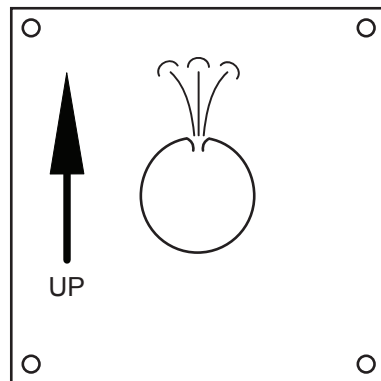

Fig. 14c
14.2 Insert the steam delivery tube/diffuser in duct and align arrow to point up. Fasten the steam diffuser to the duct using four #8 x 1/2" screws provided in Kit #10S. Make sure the holes on the steam diffuser, where the steam exits from, are pointing up. Please see Fig. 14c.